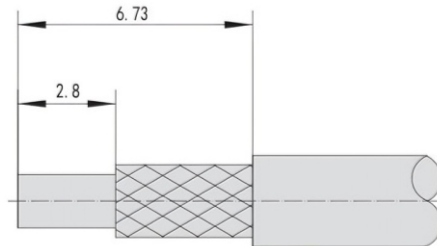

Figure 1.1
- ① Strip the cable as shown in Figure 1.1. The end face must be cut clean and perpendicular to the cable's axial plane. The cable must not be deformed during cutting. Thermal stripping is recommended.